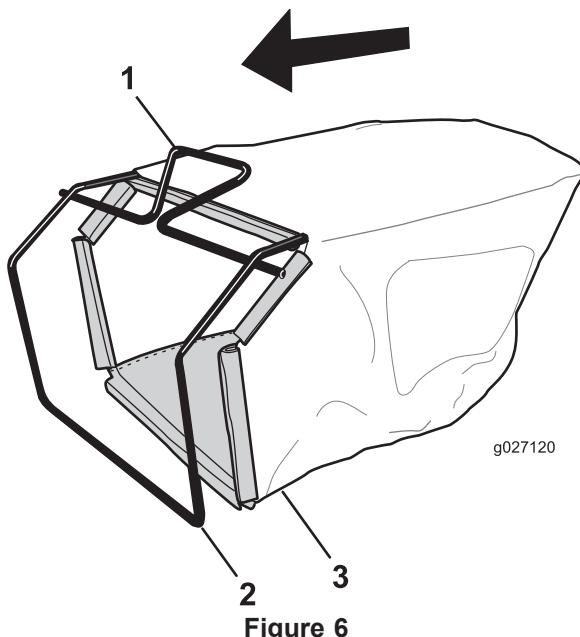

Figure 6
Note: Do not slip the bag over the handle (Figure 6).
1. Slip the grass bag over the frame as shown in Figure 6.